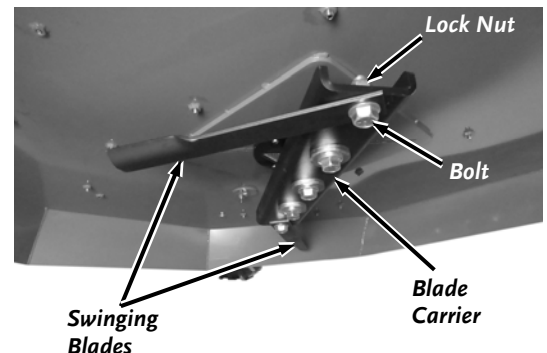

Figure 45
- Remove the Bolt and Lock Nut securing the Swinging Blade to the Blade Carrier using two 1-1/8" Wrenches and remove the Blade. (**Figure 45**).